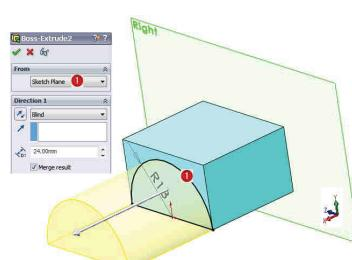

Fig. 2.23
**3 Trasare contur R13:** Comanda Sketch – Fig. 2.23 – plan ①.
**4 Extrudare contur R13:** comanda Extruded Boss/Base – Fig. 2.23 - Blind /  $\Delta_{D1}$  24 mm distanță /
**3 Sketching of the R13 contour:** The Sketch command – Fig. 2.23 – plane ①.
**4 Extrudation of the R13 contour:** the Extruded Boss/Base command - Fig. 2.23 – Blind /  $\Delta_{D1}$  24 mm distance /